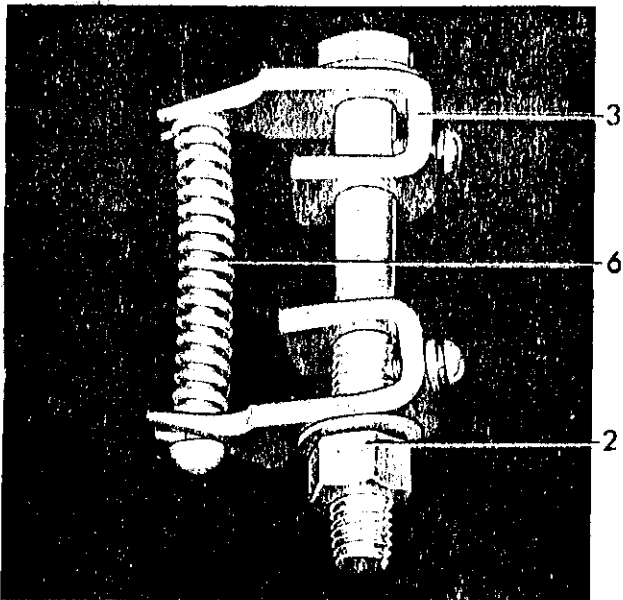

Figure 24A (8034466)
2. Open spring compressor (3) and assemble spring guide, spring and spring compressor (Figure 24A).